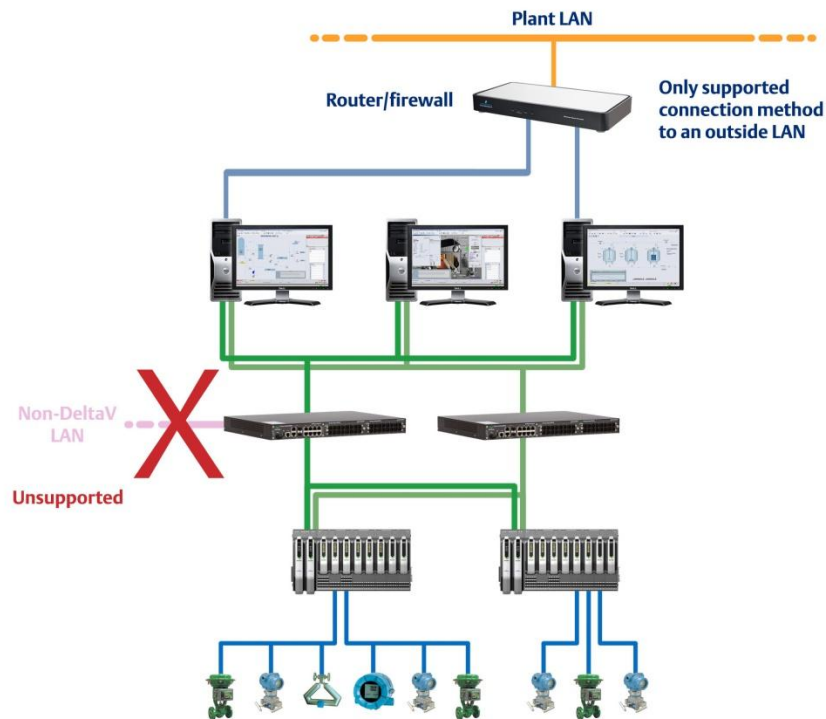

Figure 1 - DeltaV LAN architecture keeps the system isolated from the plant LAN.
- Follow the DeltaV procedures for the network configuration where all connections to the plant LAN must be made through a DeltaV workstation. See Figure 1.
- Ensure that there are no other networks, modems or wireless connections designed into the network except for the necessary connections as determined in item 2 above.